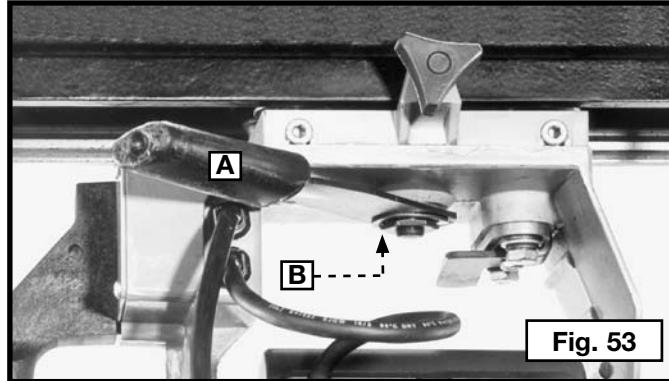
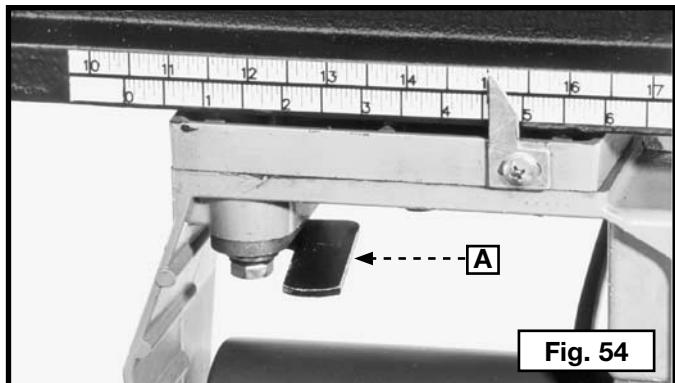

Fig. 53
Fig. 54
To reposition the yoke clamp handle (A) Fig. 53:
1. Remove retaining ring (B) Fig. 53.
2. Reposition yoke clamp handle (A) Fig. 53 on hex clamp nut.
3. Replace retaining ring (B) Fig. 53
The yoke index lever (A) Fig. 54 activates a positive stop that positions the cuttinghead in the cross-cut or rip position. To rotate the cuttinghead, release the yoke clamp handle, press up or down on yoke index lever (A) to release the positive stop, and rotate the cuttinghead to either the #1 in-rip or #2 out-rip or #3 cross-cut positions. Release the yoke index lever (A) Fig. 53 and the cuttinghead will automatically index at each of the three positions.